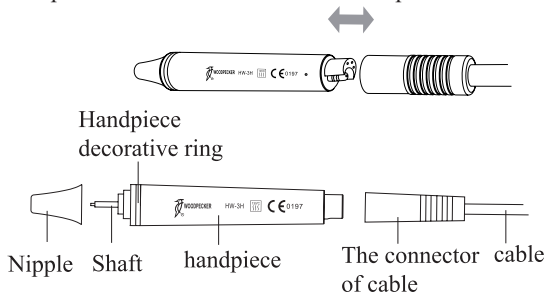

Figure 5
① **Don't pull out the handpiece when the foot switch is stepped on and the machine is producing ultrasonic vibration.**
② **Please don't choose dry mode unless needed in the treatment, please don't make the machine work under dry mode for a long time. The teeth will be hurt if the handpiece and tips getting overheat during the treatment.**
2.1.2 Instruction for main components of detachable handpiece (See Figure 5):